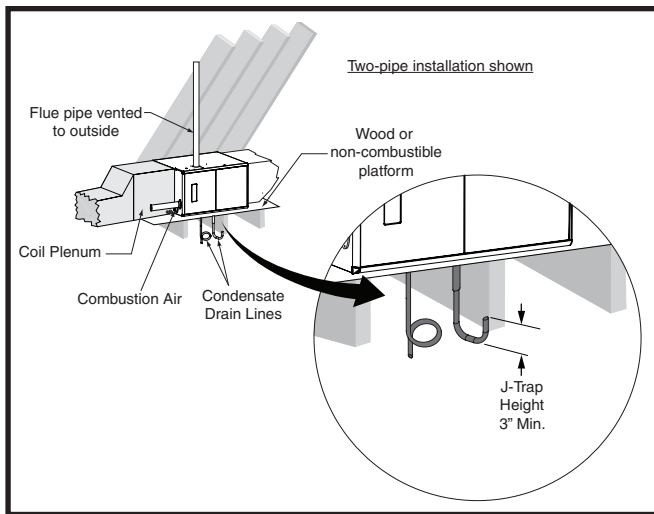
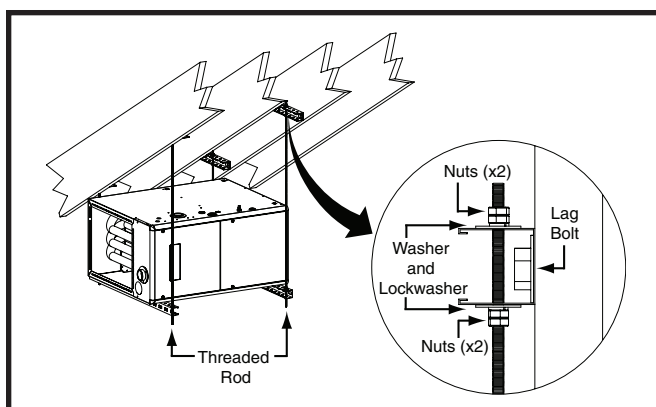

Figure 11. *SC & *SD Horizontal installation on a Platform
Figure 12. *SC & *SD Horizontally Suspended in an Attic
For Installations where there is limited clearance for the J-Trap (such as an attic where it may be installed between ceiling joists), either side of the J-Trap can be shortened to a minimum of 3 Inches. See Figure 11 (page 14).
*SC & *SD series gas furnaces can be installed horizontally (Figure 11) in an attic, basement, crawl space or alcove. It can also be suspended from a ceiling in a basement or utility room in either a right to left airflow or left to right airflow as shown in Figure 12 (page 15).
If installing the furnace with an evaporator coil (in an attic), it is required that a drip pan be placed under the furnace. If the installation is on a combustible platform as shown in Figure 11, it is recommended that the drip pan extend at least 12 inches past the top and front of the furnace.
If suspending the furnace from the ceiling, assemble a support frame (Figure 12) using slotted iron channel and full threaded rod. Fasten the frame together with nuts, washers, and lockwashers. Secure the support frame to the rafters with lag bolts. The furnace can also be suspended using steel straps around each end of the furnace. The straps should be attached to the furnace with sheet metal screws and to the rafters with bolts.